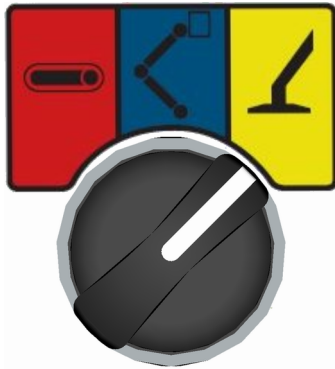

Fig. 105: Outrigger function
3. Set toggle switch (Fig. 105) on control panel to the outrigger function (yellow).